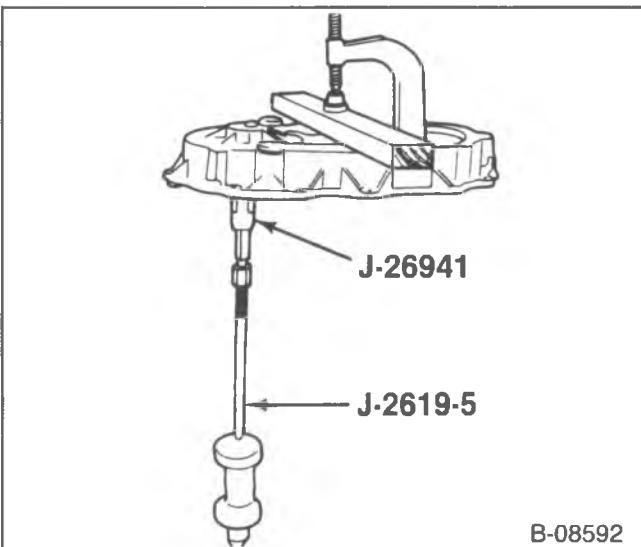

Figure 69—Front Output Shaft Rear Bearing Removal
- 18. Seal (2) from the mainshaft extension housing (4) and seal (37) from the front input bearing retainer.
- 19. Needle bearing (13) from the rear case half (57).
- With J-2619-5 hammer the bearing from the case (figure 69).